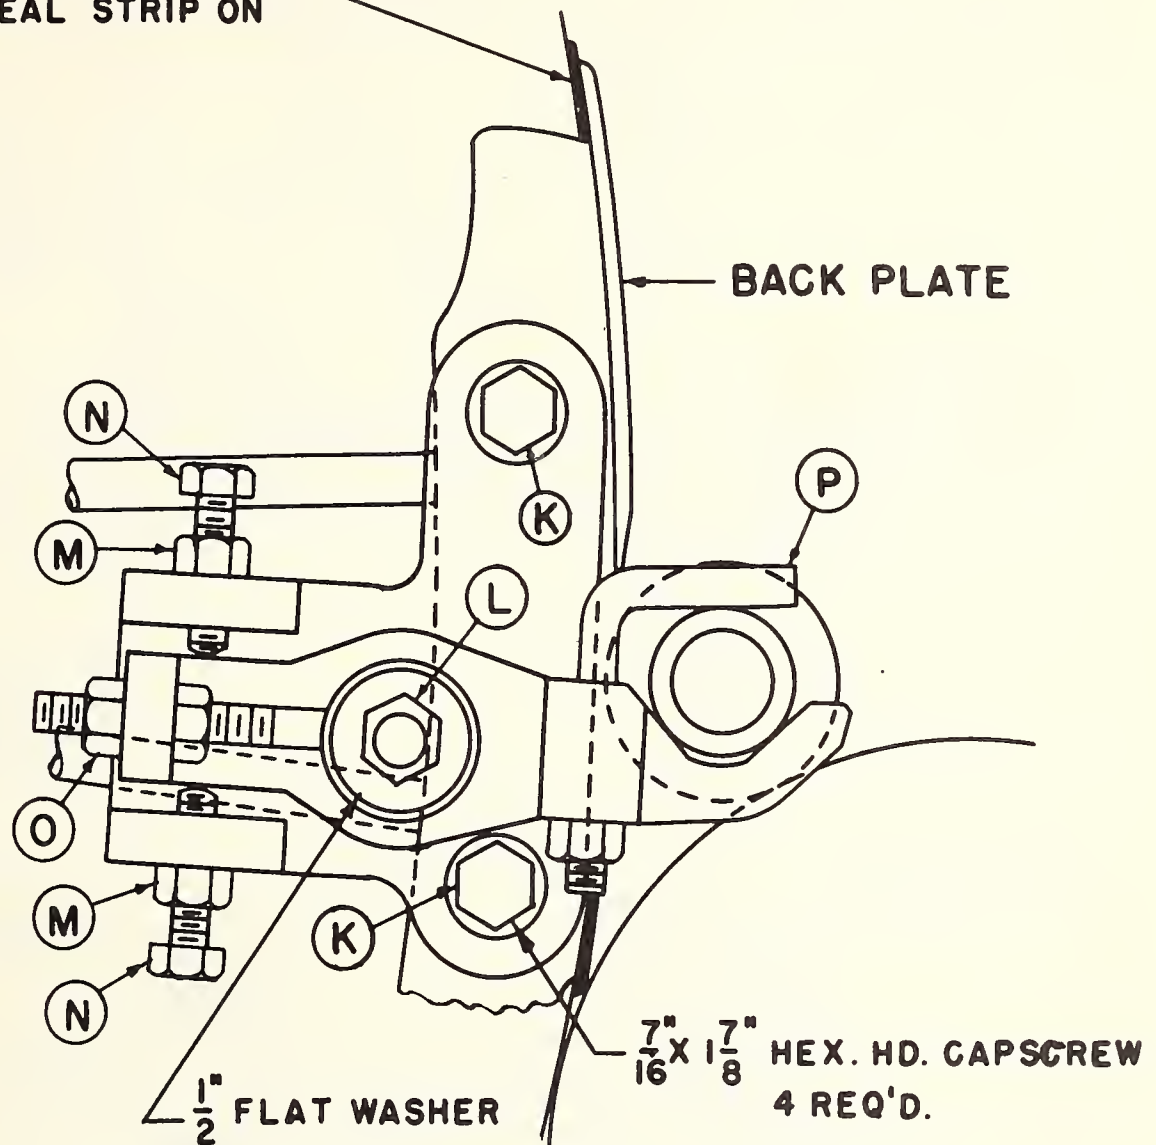

Figure 8. Pre-opener roll bracket.
Before installing the roll, clean the edge of the arch from the lickerin to the top of the back plate, by scraping and wiping with mineral spirits. Apply the $\frac{1}{8}$ " x $\frac{3}{8}$ " sponge rubber self-adhesive seal strip on the arch as shown in Figure 8. Install the brackets for
With 3 wraps of kraft paper around the pre-opener roll, set the roll in place resting it on the lickerin and main cylinder. Make sure the teeth on the roll point in a direction opposite to those on the main cylinder. Center the roll on the face of the cylinder and install the bearings snugly against the ends of the roll. Adjust the bracket to its position by tightening clamp (P) in Figure 8, making sure bracket will not interfere with back knife plate. Tighten screws (K) securely to fasten the bracket to the card. Adjust screw (L) to be snug but not tight. Back off the two locknuts (M). Adjust screws (N) to raise the roll off the lickerin and adjust nuts (O) to move the roll out from the cylinder. When this is done, and the roll turns freely, remove the paper from around the roll and set the roll .010" from the